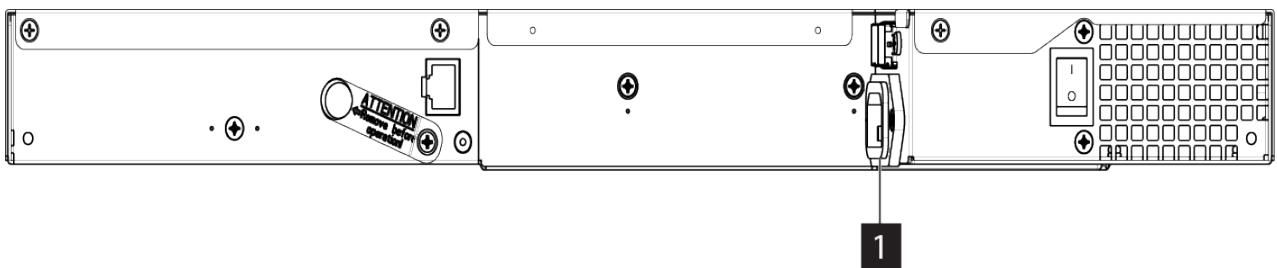

Figure 20. Power cord connection
1. Plug one end of the power cord or rack PDU power cord into the power connector (1 in Figure 20 on page 26) on the rear panel of the library.